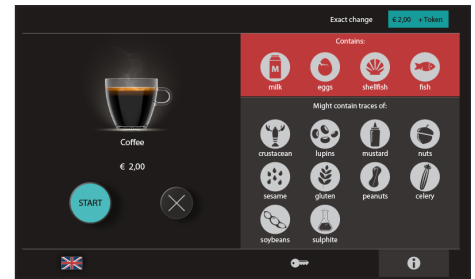

Figure 23.
3. Optionally refer to allergy-related information for the beverage you have selected (see Figure 23).